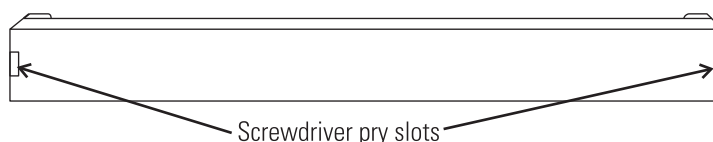

Figure 5-7. Front Cover Plate Below the Door
2. Remove the front cover plate below the door. There are small flatblade screwdriver pry slots on each end of the plate to help remove it. See Figure 5-7.